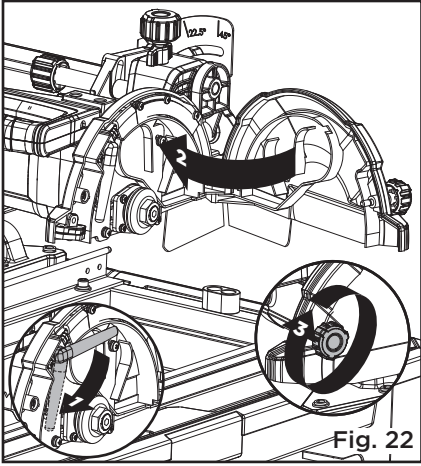

Fig. 22
- Using arbour wrench (3), press arbour lock (5) (located on inside of motor head assembly) and tighten arbour nut (4) securely.
- Rotate water nozzle (2) back to the original position. Close and lock wheel guard. (Fig. 22)